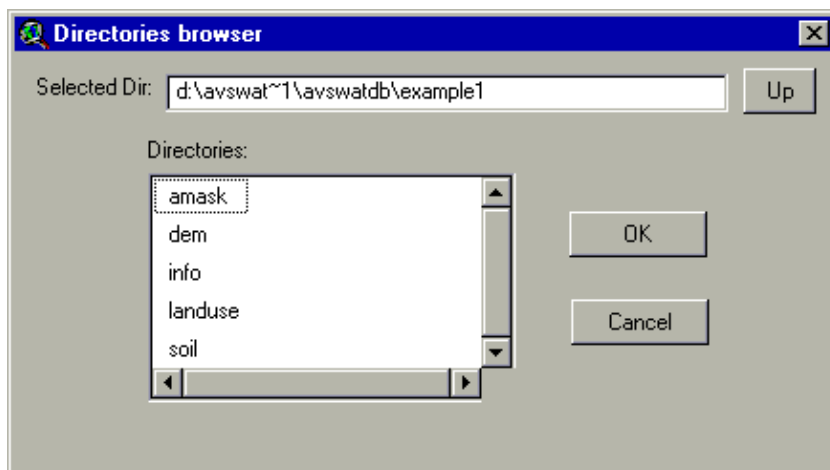

Figure 15.6
- c. Click the button labeled **Up**. This will make the *installation dir* directory active. You will see at least three directories listed: *avswatdb*, *avswatpr*, and *lakefork*. Select *avswatdb* by clicking on the name in the list of directories. When the *avswatdb* directory is active, several subdirectories will be listed: *allus*, *example1*, *example2*, *helpdoc*, and *exinputs*. Select *example1* by clicking on the name in the list of directories. The Directory browser will now look like Figure 15.6.